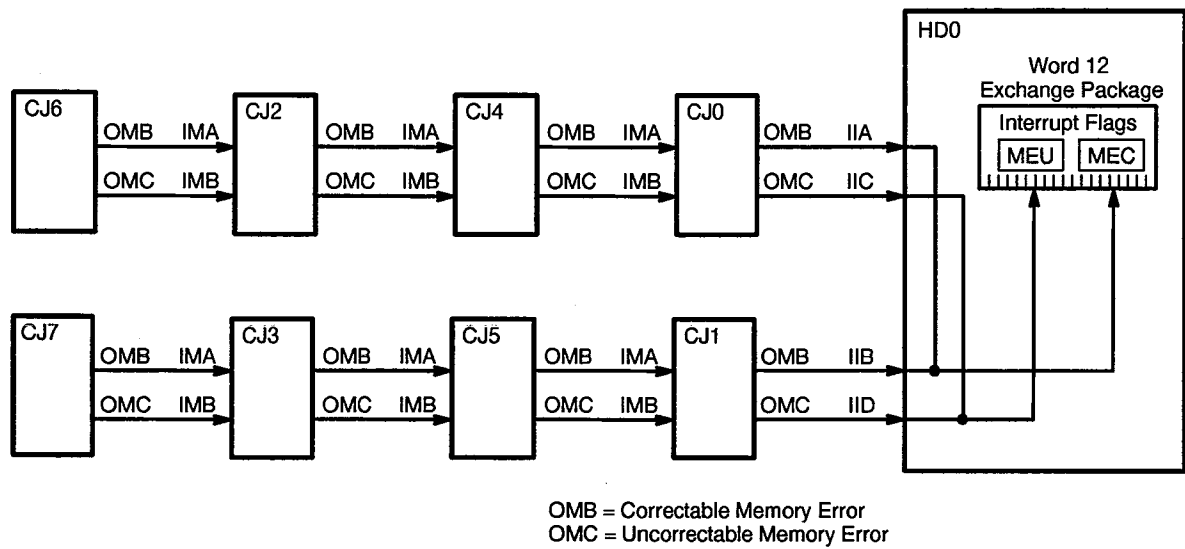

Figure 7. Setting Memory Interrupt Flags
- To interrupt flags in the exchange package (Figure 7)
The HD option receives error information from the CJ options for setting the memory error correctable (MEC) and the memory error uncorrectable (MEU) flags. Refer to Figure 7. The HD option does not have enough pins to collect correctable and uncorrectable error flags from all 8 CJ options. Therefore, the error signals (OMB to IMA and OMC to IMB) are daisy chained through the CJs and then sent to the HD.